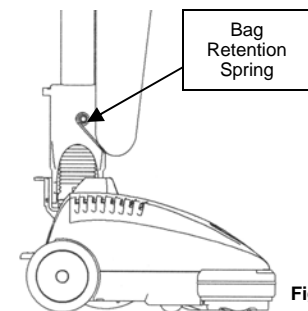

Fig. 4
4. Attach the bag retention spring to the outer bag's tension bar. (Fig. 4)